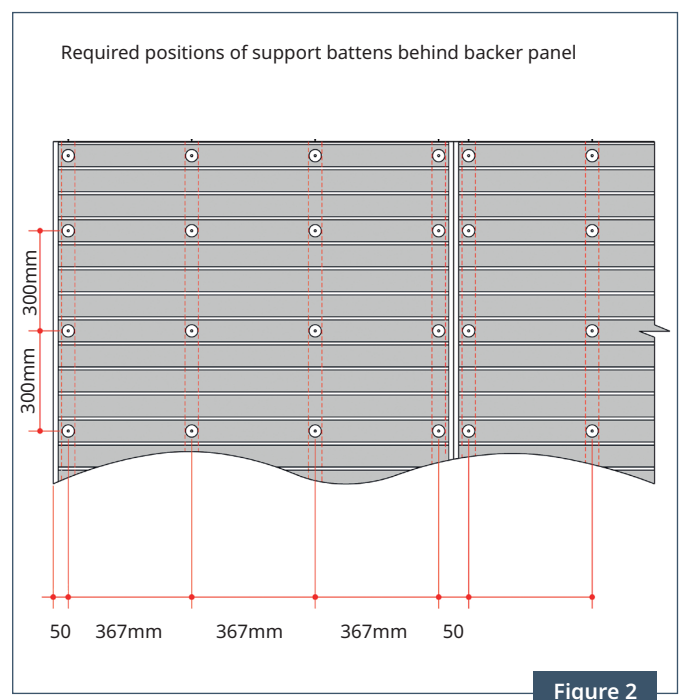

Figure 2
- Framing must be attached directly to the existing stud configuration. See Figure 2.
There must be 4 vertical fixing members behind each 1.2m wide panel. See Figure 2.
I-Clad panels are normally fixed to vertical battens or studs, top hats or other bracket systems. These must be located accurately to coincide with system design fastener layout (see Figure 2, page 2). For detailed Fixings Layout diagram, please visit [eurobrick.co.uk/downloads](http://eurobrick.co.uk/downloads).